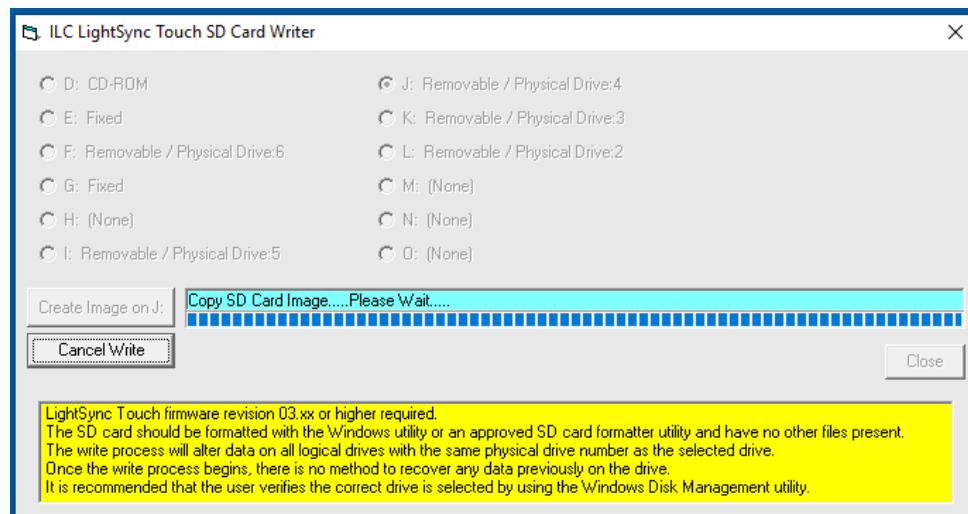

Figure 13 SD Card Writer Screen
4. Press the “Create Image on (Drive Letter):” to write to SD card. You will be prompted to write data to the drive. If you are sure this is the correct drive, select “Yes”. Data will be written to the drive, with the progress shown. See Figure 13